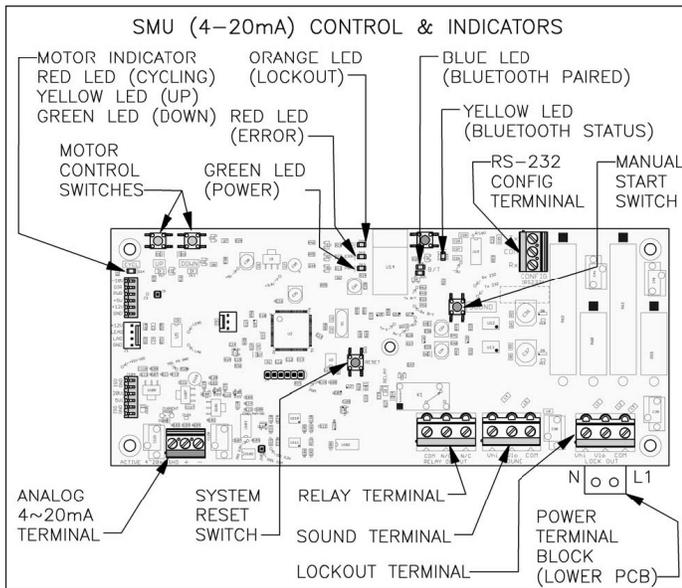

Figure 10
**SMU Analog(4-20mA) Model** (See Figure 10)